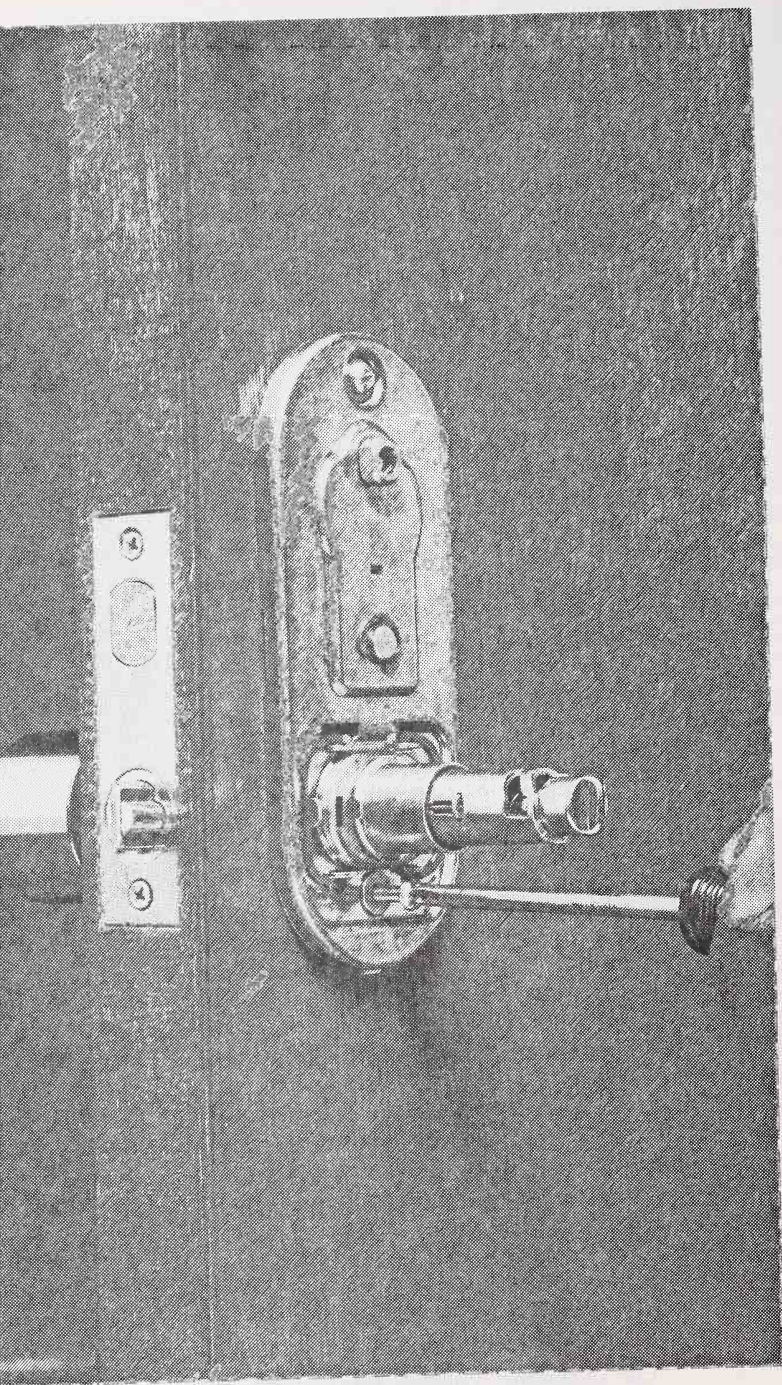

Fig. 18-104.
9. Secure the inside lockface assembly with the screws provided (Fig. 18-104).